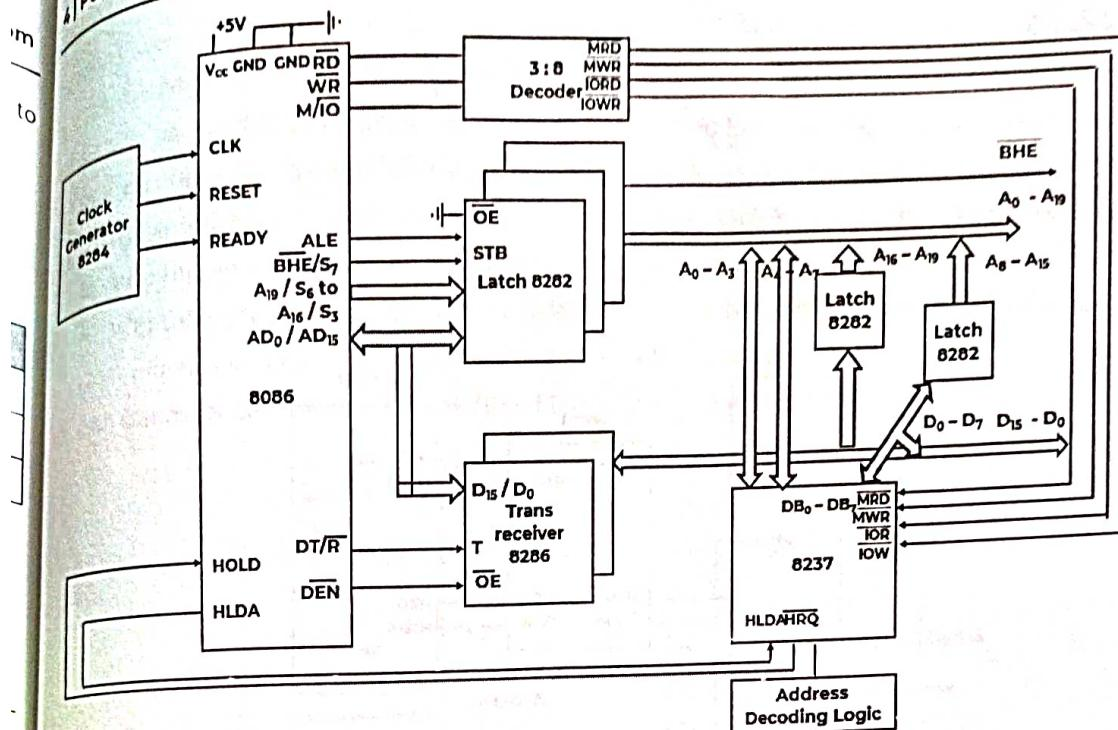

Figure 4.16: Interfacing of 8237 with 8086.
1. Figure 4.16 shows Interfacing of 8237 with 8086.